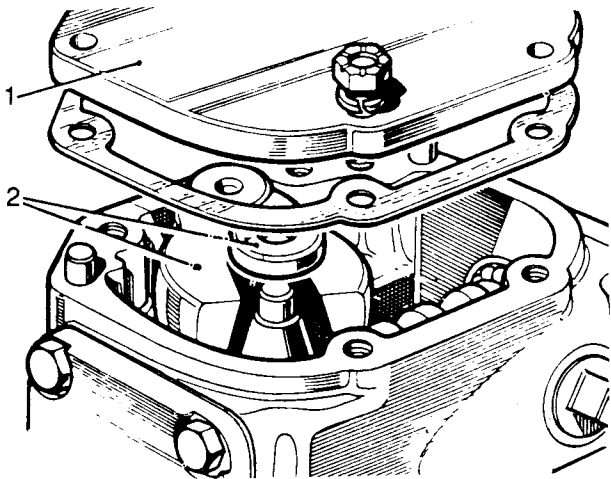

Fig L5.8
(11) Refer to Fig L5.8. Replace the rocker shaft (2) and refit the roller for the main nut.
(12) Replace the side cover (1). Coat all cover plate fixing nuts with 'Wellseal' or suitable equivalent sealing compound and tighten to 23 to 28 N.m.